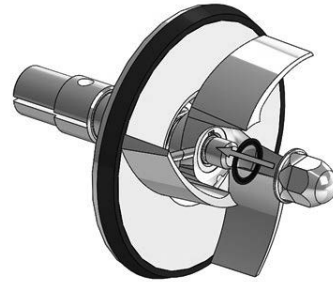

Figure 6
4. Place the rear impeller gasket onto the shaft, next place the shaft key in the shaft keyway and slide the impeller over the shaft [Figure 5]. Place the impeller nut gasket in the groove on the impeller nut and tighten down the impeller nut [Figure 6]. The impeller nut should be tightened to 18 ft-lbs (AC+114) 40 ft-lbs (AC+ 216,218,328,4410).